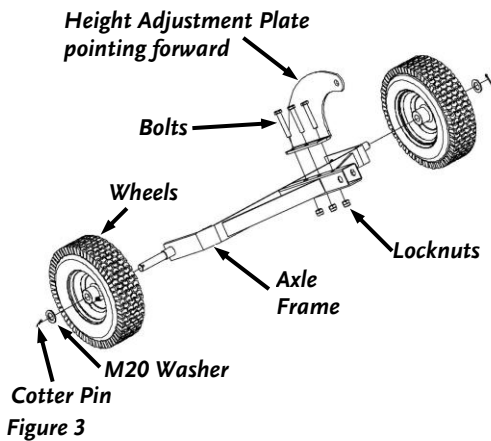

Figure 3
1. Install the Wheels to the Axle Frame, with the Valve Stems facing out, using the M20 Flat Washers and Cotter pins (Figure 3).